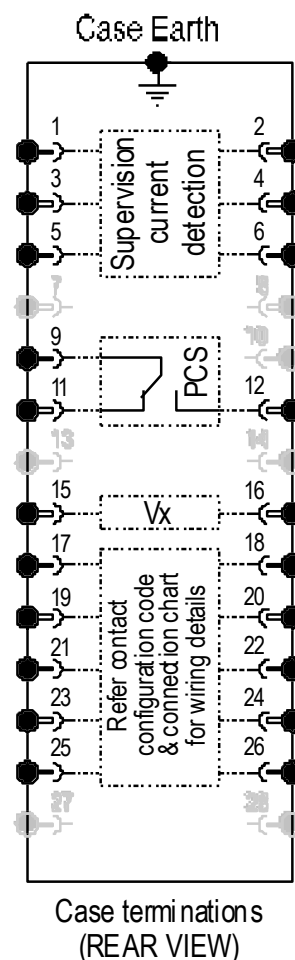

Figure 16: Generic rear terminal layout for the XR5
The case termination diagram in figure 16 depicts the rear screw terminals and position of the five (5) output contacts.